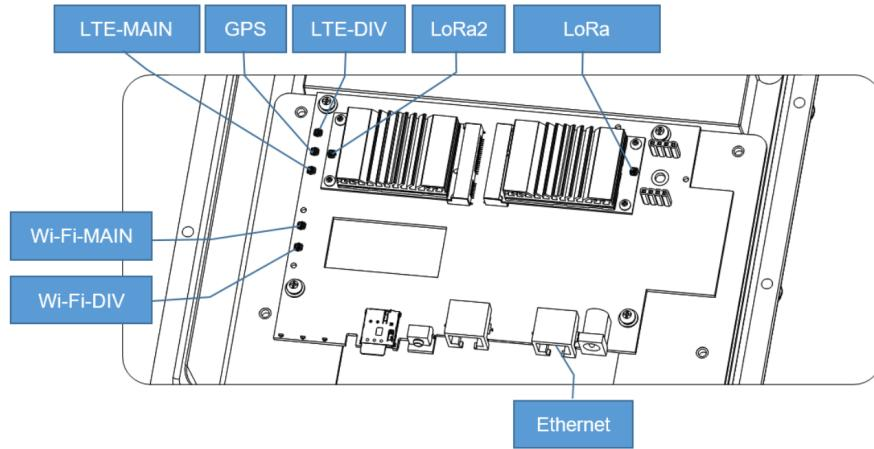

Figure 6: Connecting the cables to the motherboard
6. Connect the cables to the motherboard. The connectors on the motherboard are shown in Figure 6.